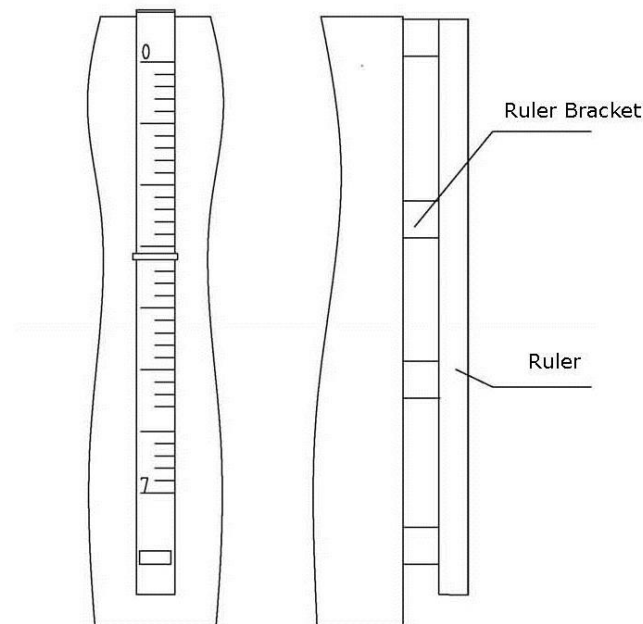

Figure 4 Installation
6.2.1 According to the position of the scale, the fixing bracket of the welding scale should be placed on a vertical line with a deviation of $\leq 2^\circ$ (Figure 4).